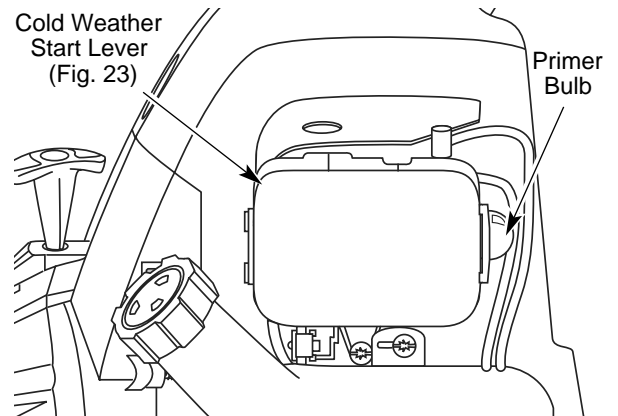

Fig. 21
3. Fully press and release the primer bulb 10 times, slowly. Some amount of fuel should be visible in the primer bulb and fuel lines (Fig. 21). If you can't see fuel in the bulb, press and release the bulb as many times as it takes before you can see fuel in it.